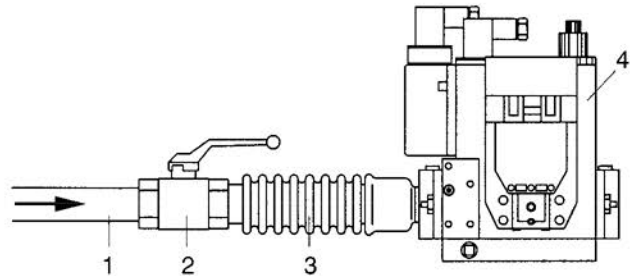

Fig. 3
The gas supply hose connection must be of suitable size and adequate for the type of system to be set up and must be effected by arranging the "gas ramp" as shown in Fig. 3: the gas pipe (1), the cut-off valve (2) and the antivibration coupling (3) are not supplied with the heater and so must be provided by the installer connecting them to the al gas valve group (4) supplied with the space heater.
- Connect a gauge to the upstream pressure intake (4) of the valve group (Fig. 3);